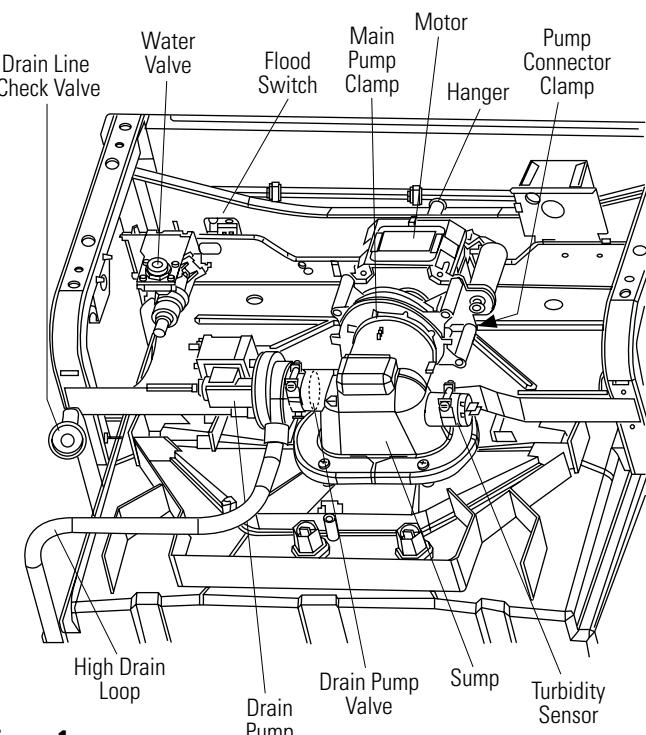
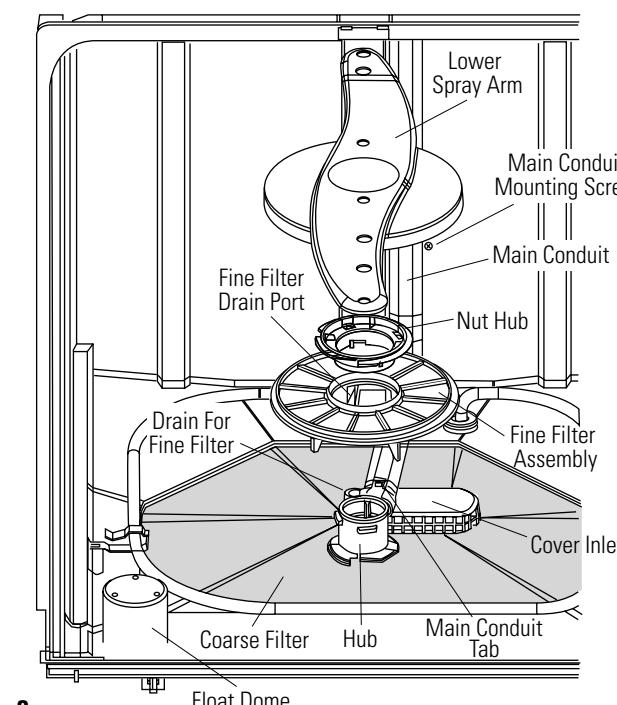

Figure 1
Figure 3
- Check cover inlet (Figure 3) in the bottom of the tub. Make sure that it is clear of food particles.
- Remove lower spray arm (Figure 3).
- Remove main conduit mounting screw (Figure 3).
- Lift main conduit tab, pull and rotate main conduit out of hub (Figure 3).
- Remove the cover inlet, check sump and drain outlet (Figure 3). It may be blocked by a toothpick or other object.
- Check drain pump valve (Figure 1) for correct operation. Water should flow only from the pump to the high drain loop.
- Drain line check valve (Figure 1) must pass water in the drain line direction only.
- On inside of dishwasher, remove the cover inlet (Figure 3) and reach down into the sump (Figure 1). Check for blockages such as bone, wire ties, etc. If it contains debris, clean thoroughly. If motor shaft cannot be turned, remove mechanism.
- Remove cover inlet (Figure 3). With syringe, remove all water from sump (Figure 3).
- Loosen main pump clamp and pump connector clamp (Figure 1).
- Remove hanger that holds motor to tub frame (Figure 1).
To Remove Lower Arm and Fine Filter Assembly (Figure 3):